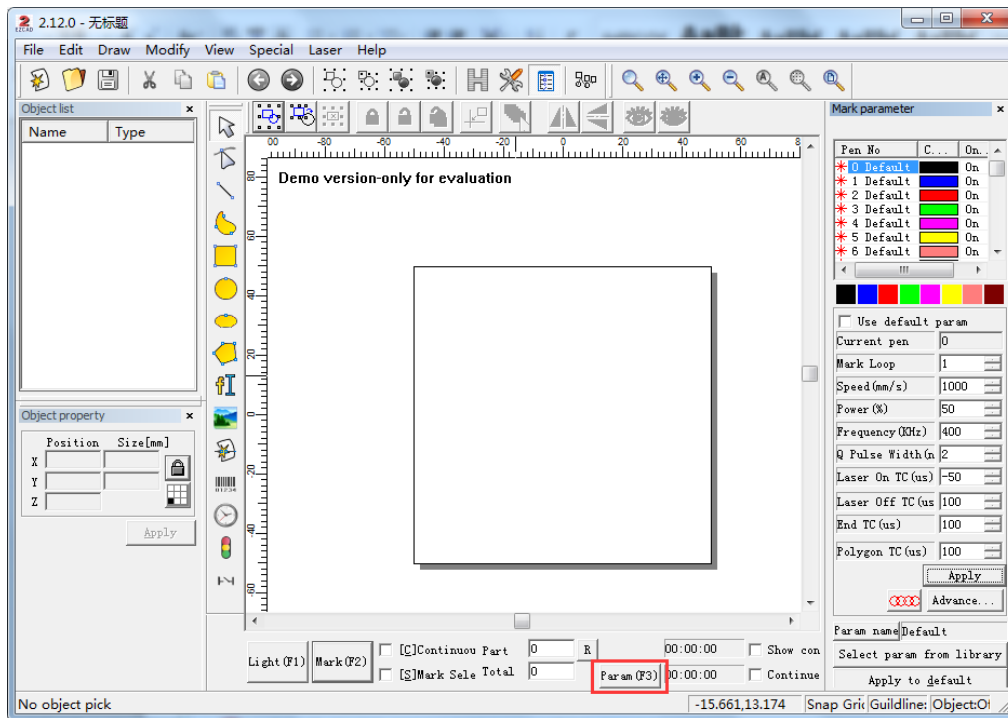

Figure 2
(3) Open JCZ and enter the main interface, find Param (F3) below the main interface, as shown in Figure 2.